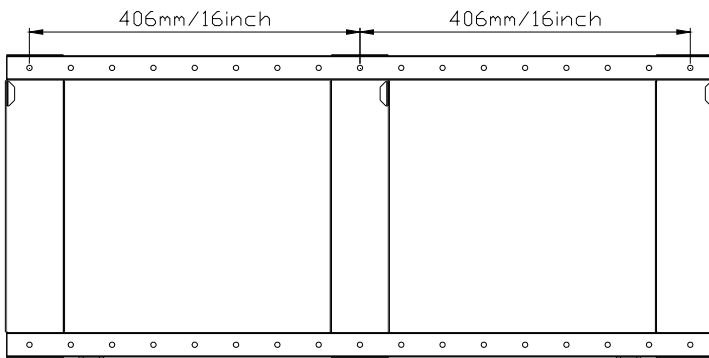

Fig. 2
- Choose a solid and plain wall and then put the bracket on the position where you want to install the fireplace. Mark the 6/8/10 holes by a pen from the holes on the bracket. (Fig. 2)